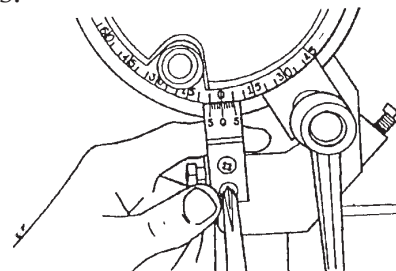

Figure B-67
30. Tighten the table tilt lock and check that the "0" mark on the indicator aligns with the "0" mark on the trunnion (149).
31. To adjust the scale, use a medium Phillips screwdriver to loosen the two screws which hold the indicator to the tie bar. See Figure B-67. Then while holding the indicator in position so the "0"s are aligned, retighten the screws.